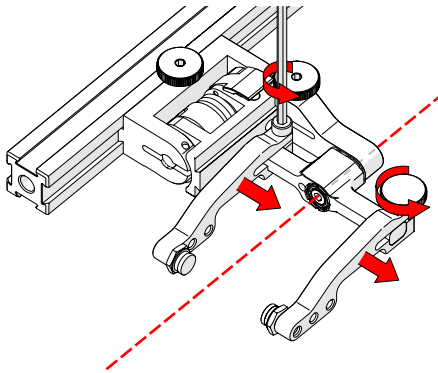

Fig. 48 - Adjust probe holder arms
5. Loosen the arm clamp screw and the probe holder arm adjustment knob (Fig. 48) and remove the outer probe holder arm from the yoke.
6. Adjust the inner probe holder arm to best centre the probe on the yoke's pivot axis (Fig. 48).